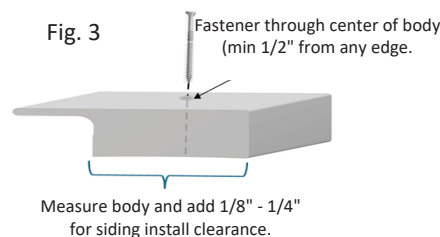

Fig. 3
2. Measure the body of the trim and add 1/8" - 1/4" to ensure clearance between the top of the siding panel and the base of the trim pocket. (Fig. 3).
- a. Finish nail, decking screw or Cortex screw (with matching plug) into the center of the main body of the trim, no less than 1/2" from any edge or end (Fig. 3).